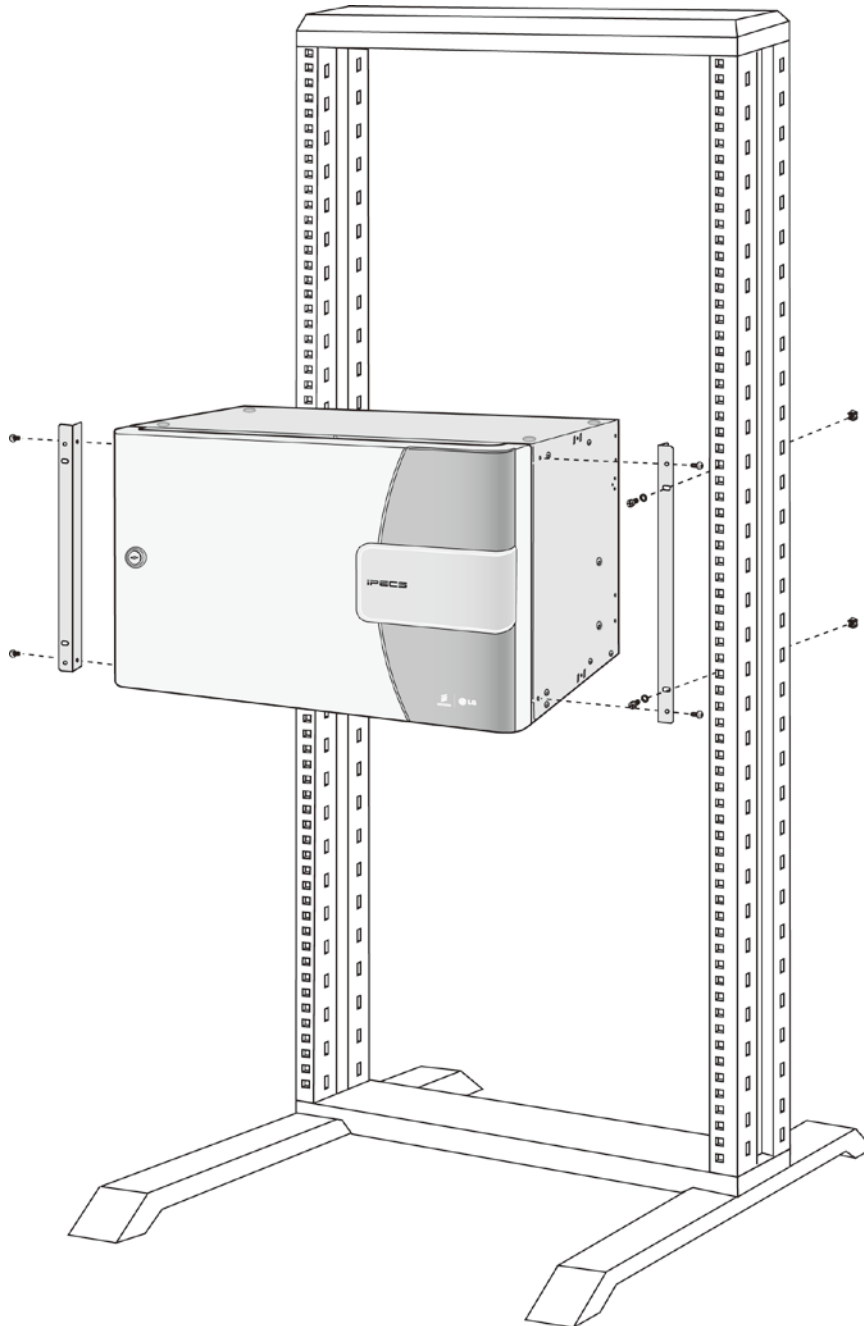

Figure 5.1.2-1 Rack (19") Installation
1. Bolt the Rack mount brackets securely to the sides of the cabinet with the four (4) M4 x 6 mm machine screws supplied. Refer to Figure 5.1.2-1.
2. Connect the brackets to a standard 19" rack securely with four (4) appropriate machine screws, nuts and lock-washers.